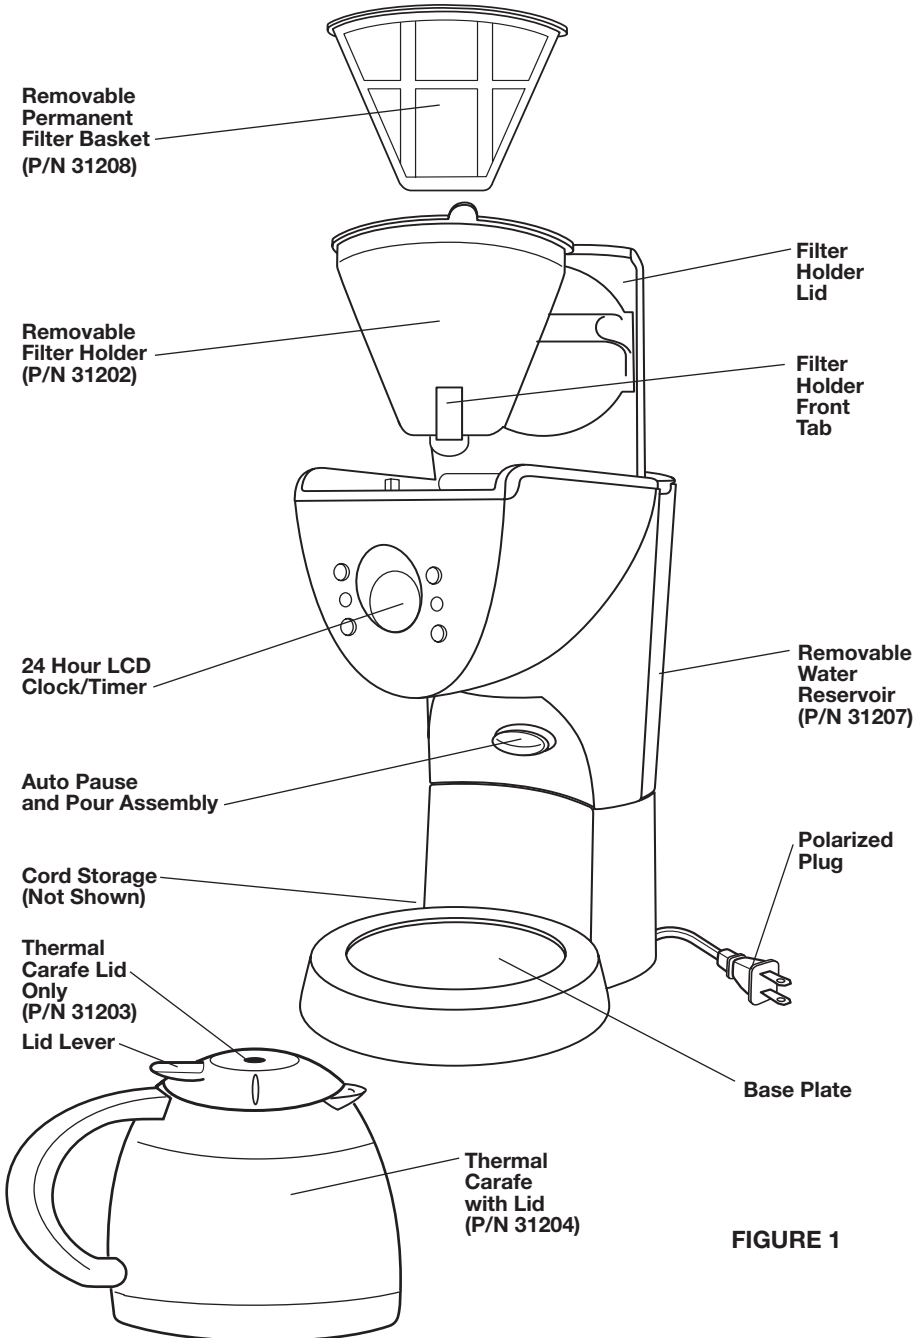

FIGURE 1
2. Open the Filter Holder Lid using the lip located on top of the Coffeemaker. (See Figure 1).
1. For optimal holding temperature, rinse the inside of Thermal Carafe with warm water before brewing; empty and make sure the Carafe Lid Lever is at the back of the Carafe and the Lid is properly secured. Place Carafe onto Base Plate, making sure it is firmly set against the silver Auto Pause and Pour Assembly of the Coffeemaker. (See Figure 1.)
NOTE: The Thermal Carafe must be placed and centered onto the Base Plate, the Carafe should rest firmly against the silver Auto Pause and Pour Assembly of the Coffeemaker (see Figure 1) to allow proper operation of the Auto Pause and Pour Feature.